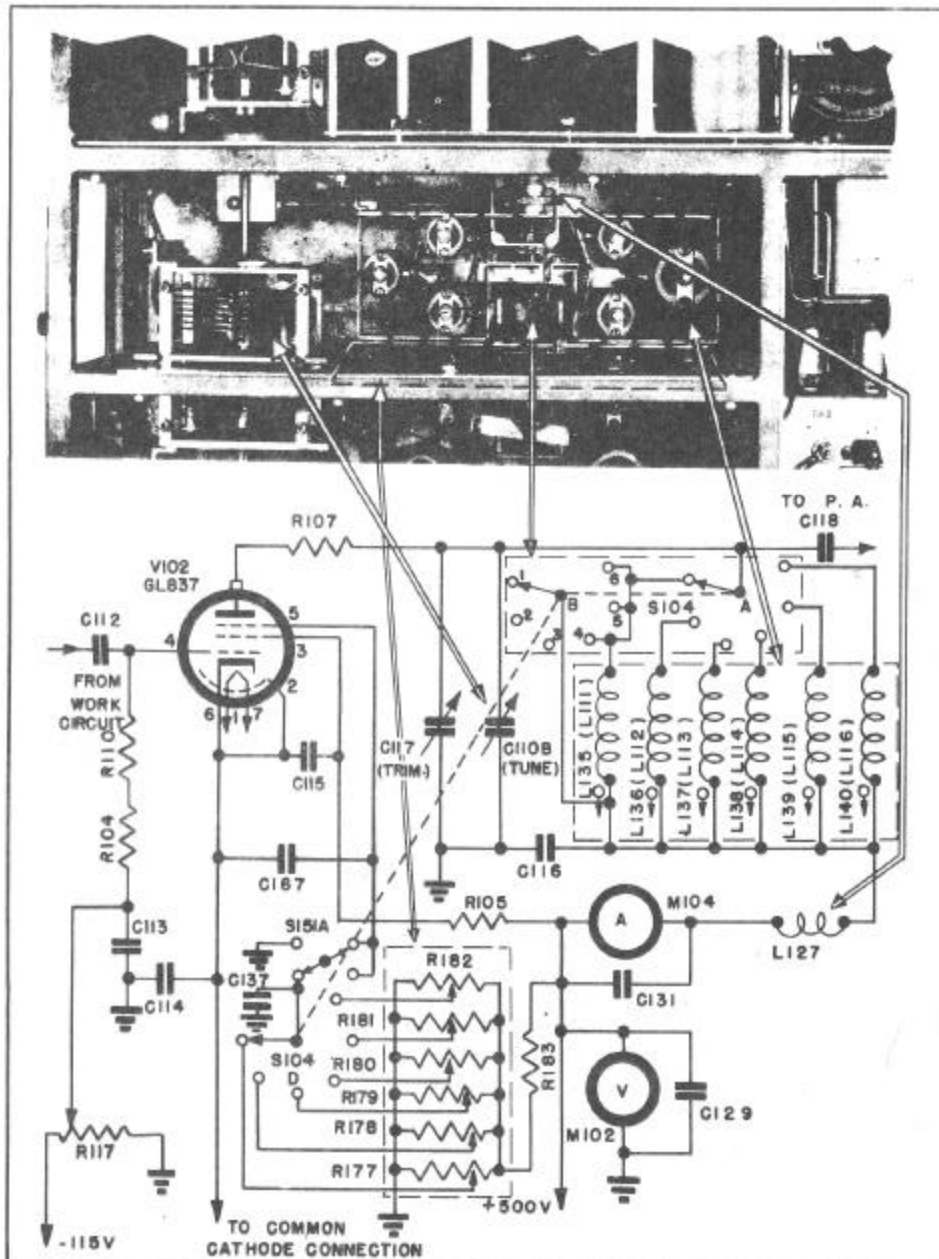

Figure 2-3—Intermediate Power Amplifier Schematic
**4. INTERMEDIATE POWER AMPLIFIER (I.P.A.) (See Figure 2-3).**